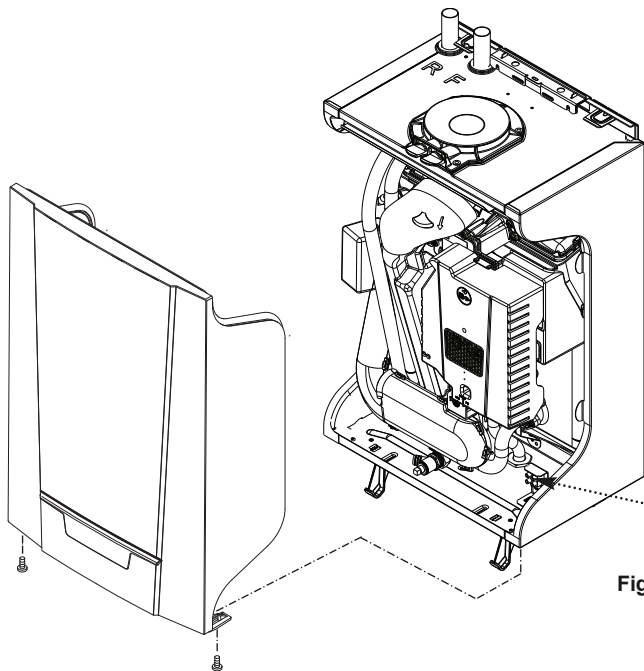

Fig. 45
3. Unscrew the two securing screws on the front panel. Remove the front panel (Fig. 45).